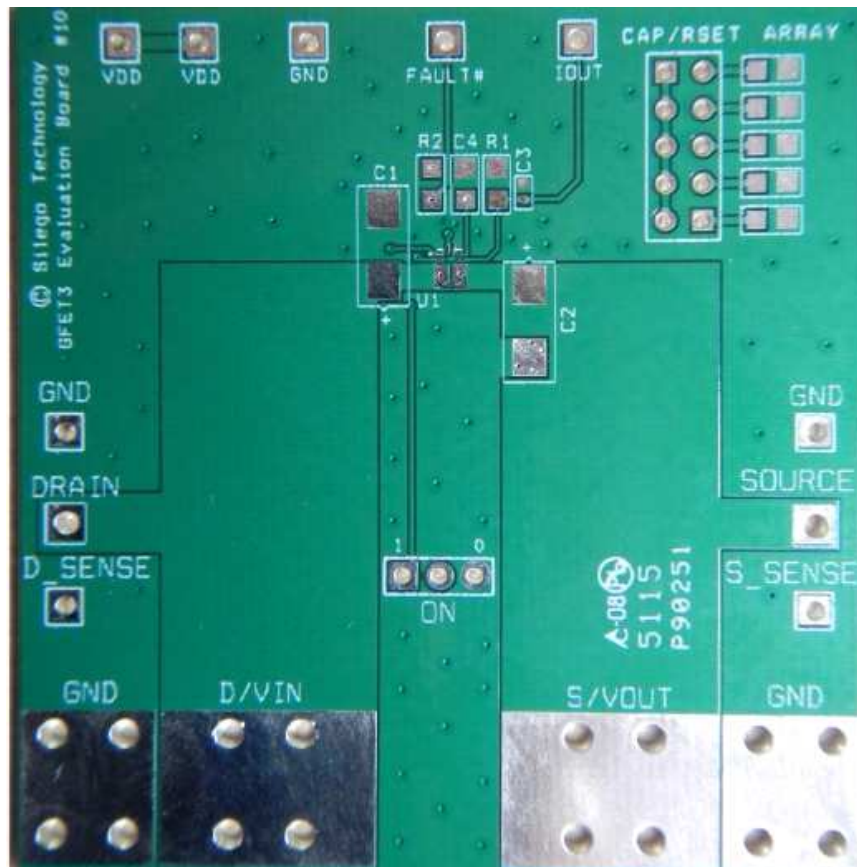

Figure 1. SLG59M1714V Evaluation Board
2. Since the VIN and VOUT pins dissipate most of the heat generated during high-load current operation, it is highly recommended to make power traces as short, direct, and wide as possible. A good practice is to make power traces with an absolute minimum widths of 15 mils (0.381 mm) per Ampere. A representative layout, shown in Figure 1, illustrates proper techniques for heat to transfer as efficiently as possible out of the device;
A GreenFET Evaluation Board for SLG59M1714V is designed according to the statements above and is illustrated on Figure 1. Please note that evaluation board has D\_Sense and S\_Sense pads. They cannot carry high currents and dedicated only for  $R_{DS(ON)}$  evaluation.